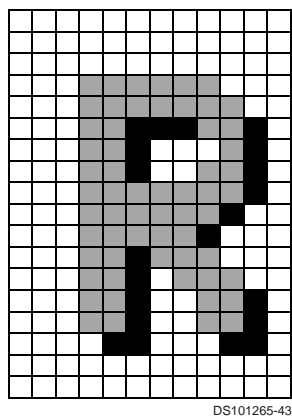

FIGURE 37. Shadowing
3. **Shadowing**—Shadowing can be added to two-color characters by choosing the appropriate attribute value for the character. When a character is shadowed, a shadow pixel is added to the lower right edges of the color 2 image, as shown in *Figure 37*. The color of the shadow is determined by the value in the color palette register EF3 (normally black).